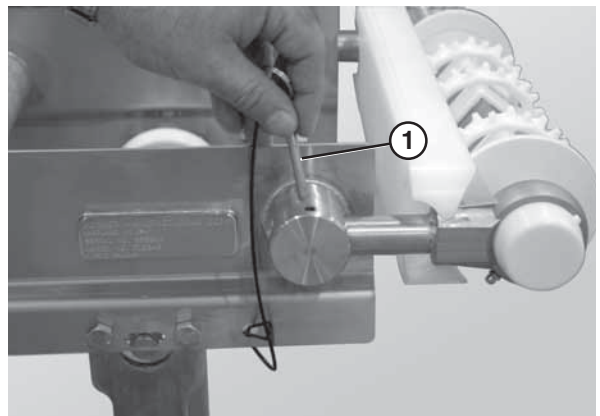

Figure 72
5. Remove the pull pin (Figure 72, item 1).
- Remove the pull pins (Figure 72, item 1).